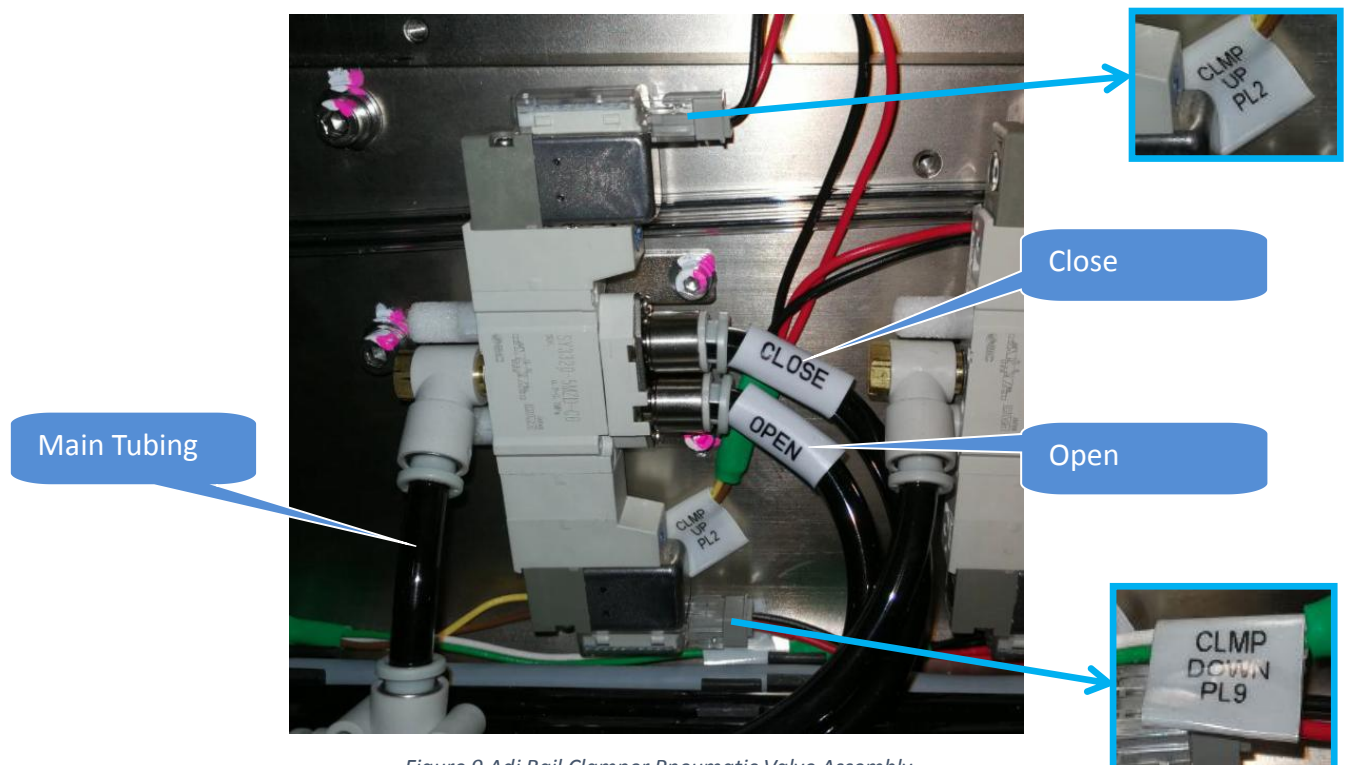

Figure 9 Adj Rail Clamper Pneumatic Valve Assembly
- Connect Solenoid Valve Cable by refer to Label “CLMP UP PL2” as below Figure 9
- Connect Solenoid Valve cable by refer to Label “CLMP DOWN PL9” as below Figure 9
- Connect 2 x Tubing respectively by refer to “CLOSE” & “OPEN” as below Figure 9
- Connect Main tubing as below Figure 9